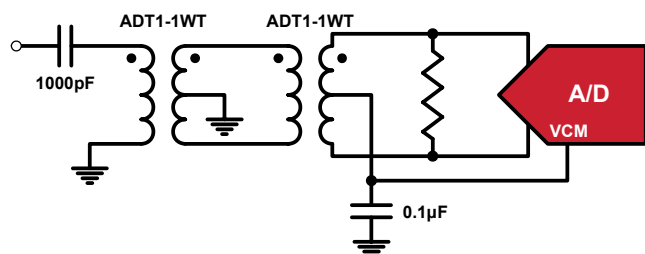

FIGURE 31. TRANSFORMER INPUT FOR GENERAL PURPOSE APPLICATIONS
Best performance is obtained when the analog inputs are driven differentially. The common-mode output voltage, VCM, should be used to properly bias the inputs as shown in Figures 31 through 33. An RF transformer will give the best noise and distortion performance for wideband and/or high intermediate frequency
(IF) inputs. Two different transformer input schemes are shown in Figures 31 and 32.